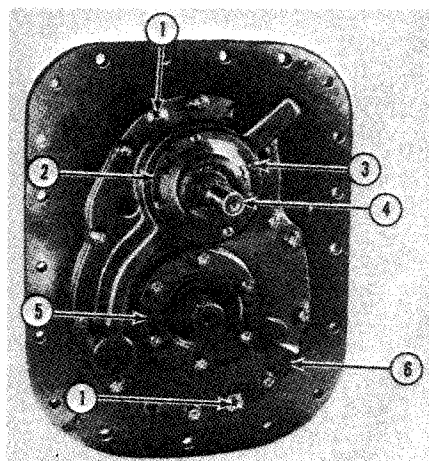

Fig. 159—View showing rear of transmission on Models TW-10, TW-20 and TW-30.
On TW-10, TW-20 and TW-30 models, remove four screws (3—Fig. 159) securing low pressure oil pump to rear cover (6). Carefully withdraw pto shaft (4) and
On all models, refer to Fig. 159 or 159A and unbolt then carefully pry output shaft bearing retainer off rear cover to avoid damaging output shaft bearing adjustment shims. Remove the cap screws retaining rear cover to transmission housing and thread two of the cap screws into jack screw locations shown. Evenly tighten the two cap screws to force rear cover from housing, then remove the rear cover and, on all models except TW-10, TW-20 and TW-30, the pto shaft assembly. Remove jack screws from cover. On splash lubricated transmissions pry oil seal (68—Fig. 160) from retainer (70) and on all models, if bearing cup (61) is scored or otherwise damaged, remove the cup. Remove snap ring (66) and bump pto shaft (42) and bearing (65) out rear of cover, then remove pto shaft oil seal (63) (splash lubricated transmissions only). Inspect bearing (45) in rear cover and remove the needle roller bearing if worn or damaged. Withdraw output shaft (52) with gear (58) out rear of transmission; press shaft from gear and rear bearing cone (60) and remove front bearing cone (50) if worn or scored. Shift high-low sliding coupling (51) to rear and remove coupling from shift fork. Withdraw secondary countershaft (41) from rear of transmission, taking care not to drop thrust bearing (38). Inspect needle roller bearing (39) in web of transmission housing; if bearing is excessively worn or damaged, it can be removed and a new bearing installed providing care is taken to remove any dislodged needle rollers from housing when removing old bearing. Inspect bearing cup (49) in rear end of main countershaft (47) and remove if scored or excessively worn. Inspect ball bearing (65) on pto shaft (42); remove snap ring (67) and press bearing from shaft if bearing is worn or rough.
Fig. 160—Exploded view of transmission gears, shafts and bearings with rear cover and bearing supports. Refer to Fig. 157 for exploded view showing transmission housing, top and shift covers, shift forks and rails and transmission brake linkage. Note rear cover differences in Figs. 159 and 159A. On later models except TW-10, TW-20 or TW-30, third gear (35) face is recessed and a thrust washer is fitted. Seals (63 and 68) are not used in pressure lubricated transmissions. Snap ring (64) is not used in splash lubricated transmissions. "O" ring (16A) is installed in mainshaft (16) on models without Dual Power. Oil pump (71) is only used on TW-10, TW-20 and TW-30.